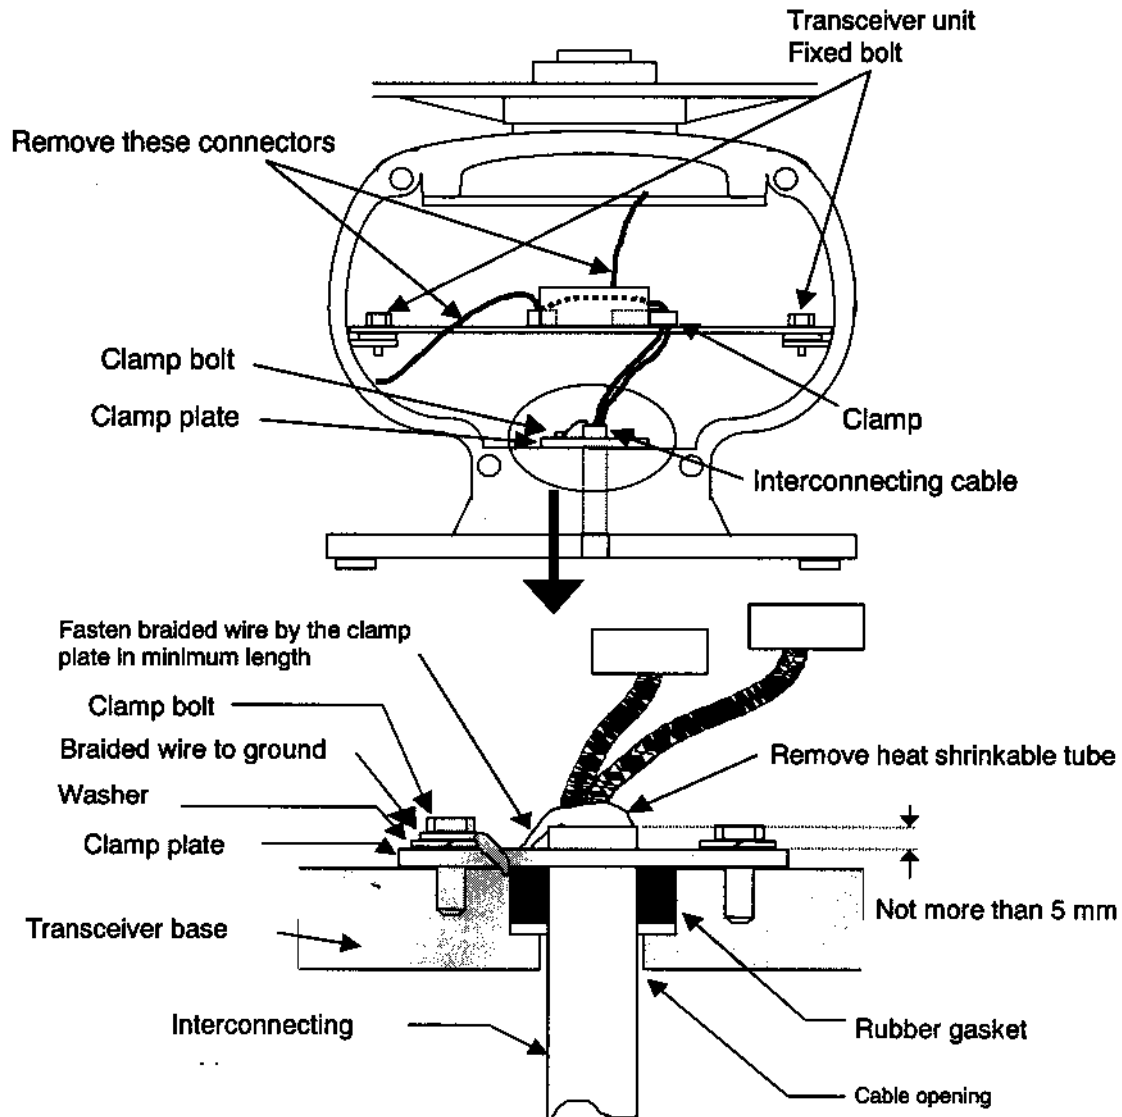
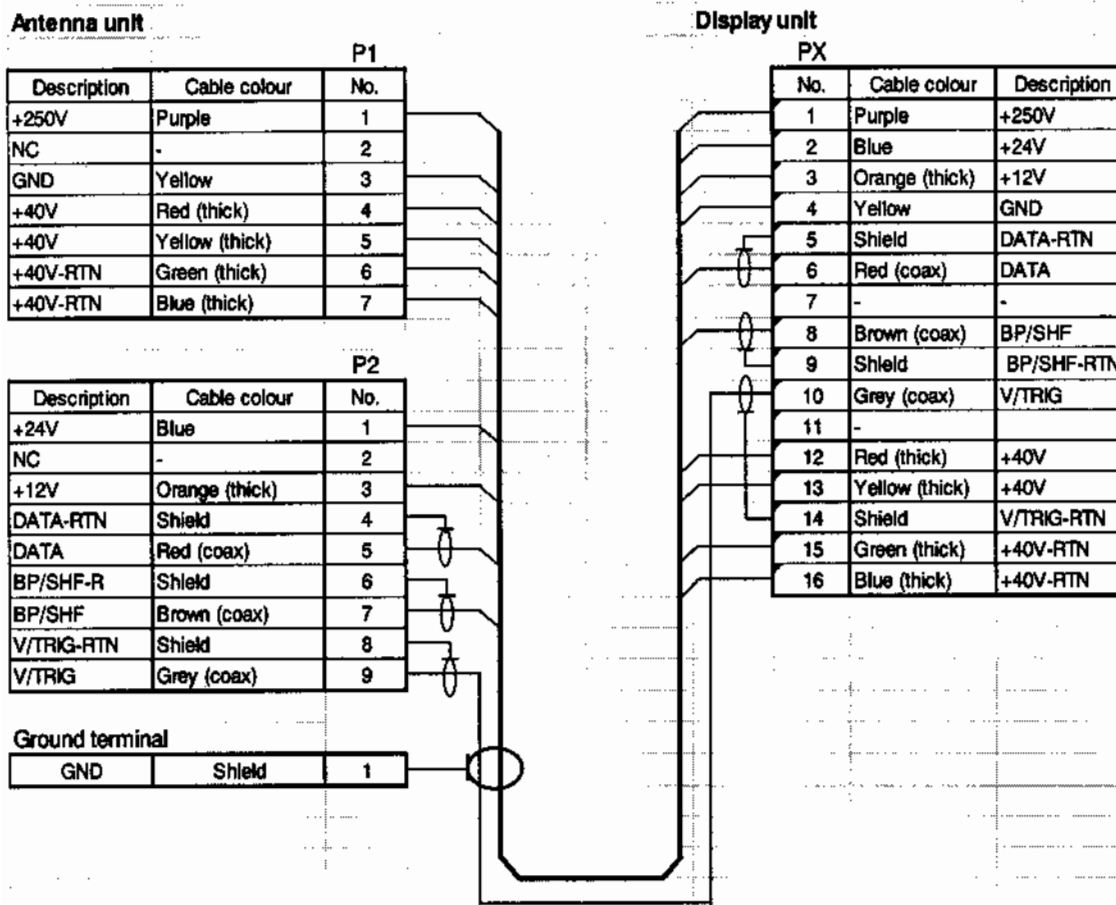

Figure 3.4 Connection of cable to antenna unit
Figure 3.5 Interconnection of cable between antenna unit and display unit
- (1) Remove front and back covers of transceiver unit by loosening four mounting bolts.
- (2) Pull out the transceiver unit by loosening two mounting bolts and disconnect each connector. Be careful not to lose metal parts to the magnetron magnet.
- (3) Remove cable retainer (circular), washer and waterproof rubber gasket from the antenna cable.
- (4) Route the interconnecting cable into the enclosure through the cable port of its bottom.
- (5) Replace the cable retainer, washer and rubber gasket removed in (3) above, to the interconnecting cable in the order shown in Figure 3.4.
- (6) Secure the cable with the retainer as follows. First secure only two clamps of the cable retainer, and then fasten the braided wire (with terminal) from the interconnecting cable together with the remaining bolts on the retainer.
- (7) Secure the interconnecting cable with cable clamps on the transceiver chassis.
- (8) Connect the interconnecting cable to the transceiver. (Refer to the connection diagram of Figure 3.5 for the further description of an interconnection)